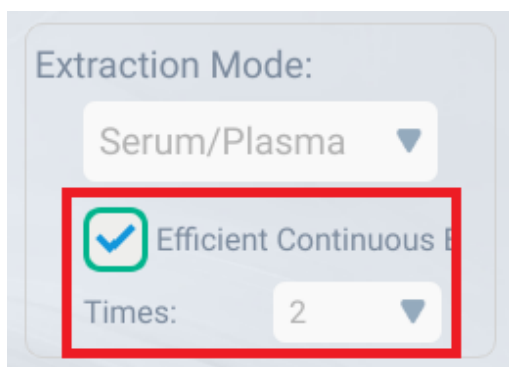

Figure 9
*When configuring the extraction mode, if 'Efficient Continuous Extraction' is selected, the 'Times' parameter is set, and the number of selected column positions is 2 or more, the system will prompt you to replace the microcentrifuge tube(s) after each collection cycle (See Figure 9). After replacing the tube(s), repeat the sample addition and collection steps until the total number of sample additions reaches the set Times value.